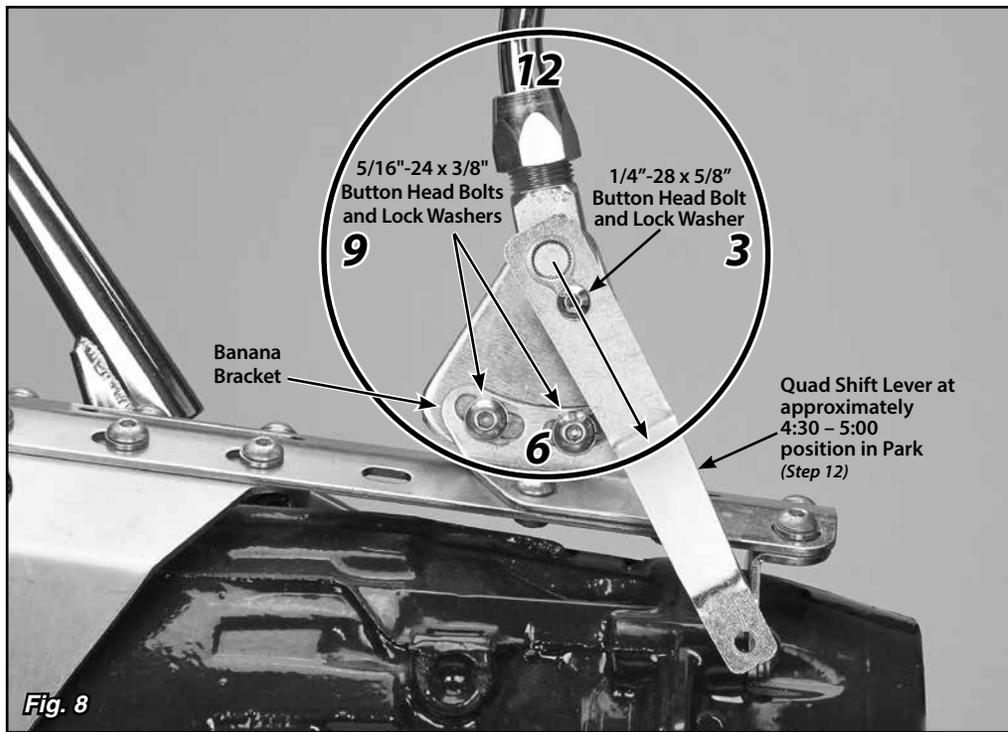

Fig. 8
**Step 11:** Make sure the two 5/16"-24 x 3/8" button head bolts that attach the driver side banana bracket to the shifter assembly (in the curved, slotted holes) are tight. Before tightening the shifter assembly down to the main plate, move the Shifter through all of the gear positions. Make sure the shifter lever and knob do not come in contact with the dash or the seat. The shifter assembly can be tilted forward or backward if needed by loosening the 5/16"-24 x 3/8" button head bolts in the curved, slotted holes in the driver side banana bracket. **Fig. 8**
**Step 12:** Make sure the shifter lever is in the Park position. Temporarily place the quad shift lever in position on the quad lever bushing as shown in **Fig. 8**. Check for interference with the vehicle floor. With the shifter lever in Park, you want the quad shift lever to be at approximately the 4:30 – 5:00 position.